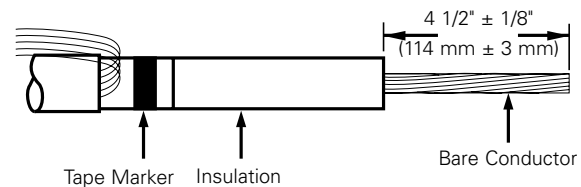

Figure 17. Line illustration of bare conductor length.
- Remove insulation exposing bare conductor to length of 4 1/2" (114 mm). (Refer to Figure 17.)